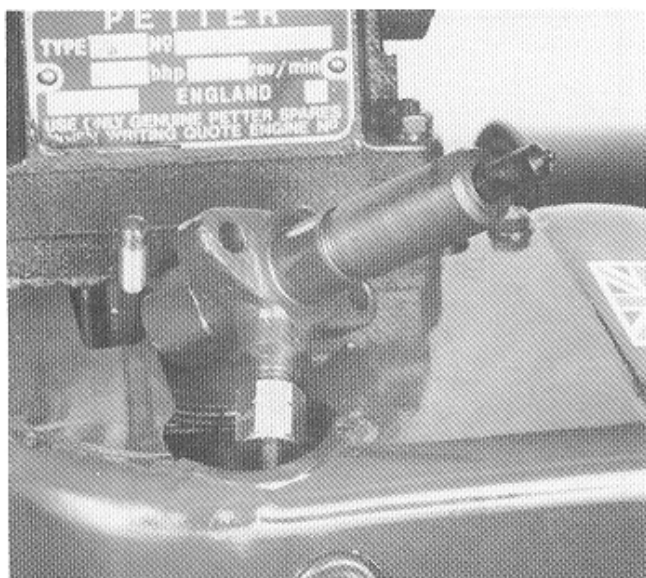

Figure 3.8
- (1) Connect the injector to the pump-to-injector fuel pipe in such a manner that the injector nozzle points away from the engine. (Figure 3.8).
- (2) Operate the fuel pump priming lever. The fuel should squirt out suddenly in three fine mist sprays, these should then stop just as suddenly. If the nozzle fails to spray, or gives solid squirts of fuel, or dribbles after the sprays have stopped, fit a new nozzle.